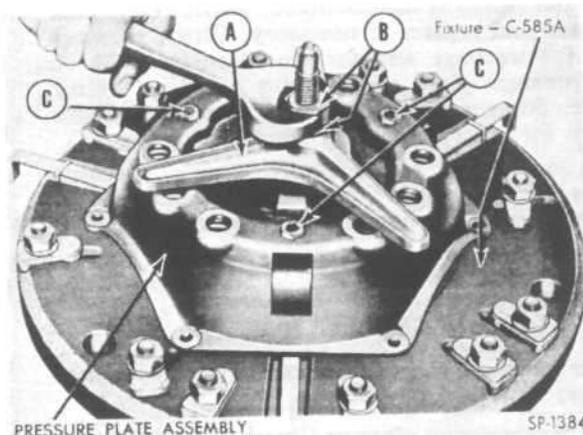

FIG. 182—DISASSEMBLING SIX SPRING CLUTCH
- a. Install the three-legged spider (A, Fig. 182) so that it rests directly against the top of the clutch pressure plate cover.
- b. Install the plain washer and nut on the fixture (B, Fig. 182), and tighten down the nut to relieve the spring load on the pressure plate eyebolt nuts.
- c. Remove the pressure plate lever eyebolt nuts (C, Fig. 182).